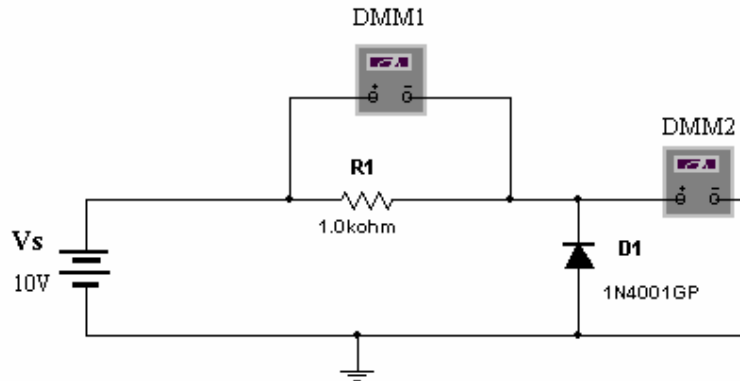

Fig.6: Measurement of I_{R1}
15. Construct the circuit shown in Figure 6. Note that the 1N4001 diode is now reverse biased.